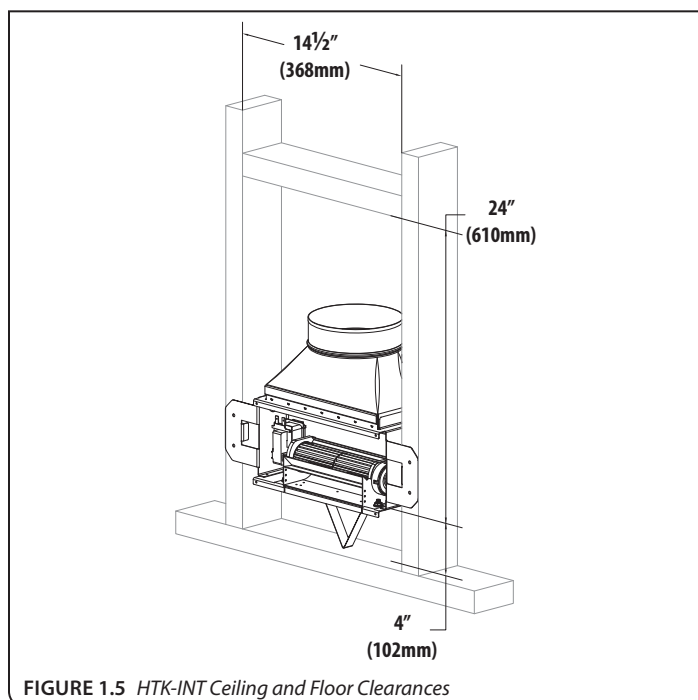

FIGURE 1.5 HTK-INT Ceiling and Floor Clearances
- FIGURE 1.5 shows the 4" (102mm) clearance between the air discharge box and the framing of the floor or the ceiling.